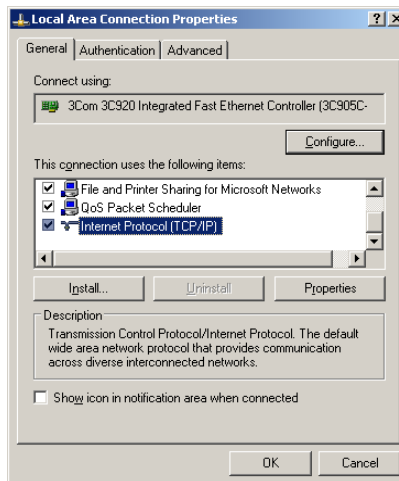

Figure D-6: Local Area Connection Properties Screen
6. Double click on the Local Area Connection. The Local Area Connection Properties setup screen displays (Figure D-6).